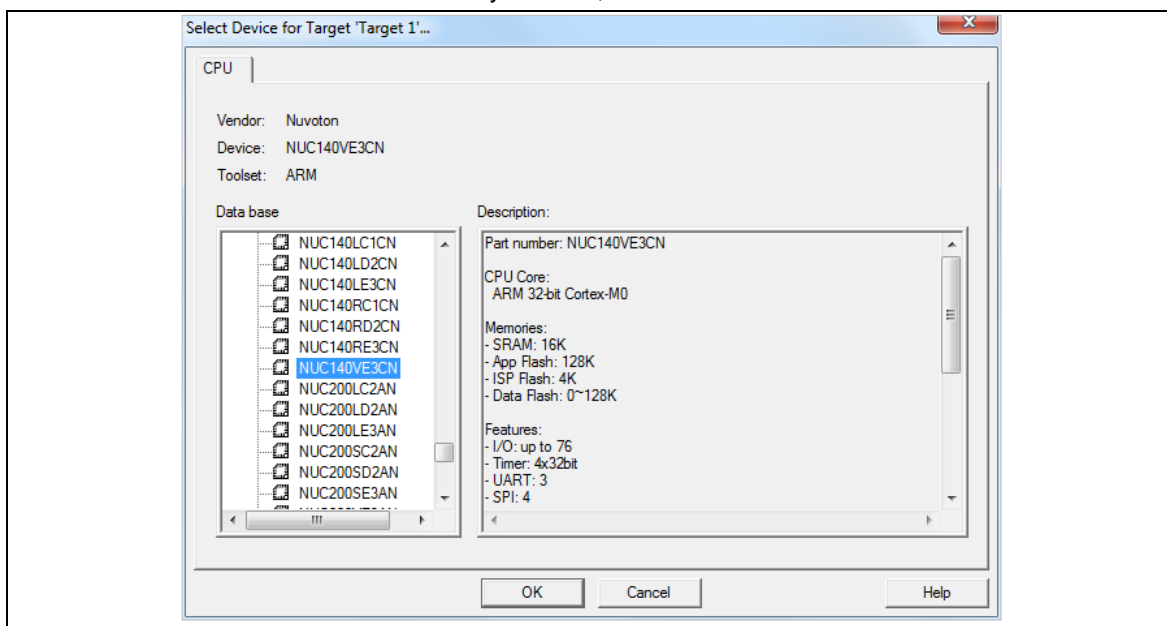

Figure 4-2 Select Device in MDK4
3. If user selects the correct device as shown in Figure 4-2, the RAM/ROM size and .SFR file will be filled up automatically. Otherwise, user has to set a correct RAM/ROM size and select correct .SFR file from "<Keil® install path>Arm\SFD".